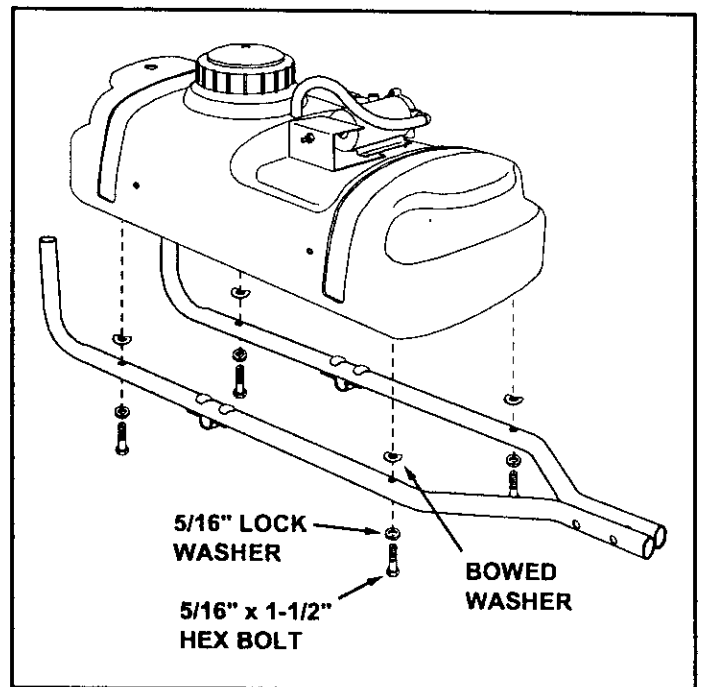

FIGURE 2
- Assemble the hitch tubes to the tank using four 5/16" x 1-1/2" hex bolts, 5/16" lock washers and bowed washers. Place the bowed washers between the tank and the hitch tubes. **Do not tighten yet.** See figure 2.
- **Tighten** the four bolts which fasten the hitch tubes to the bottom of the tank. See figure 2.